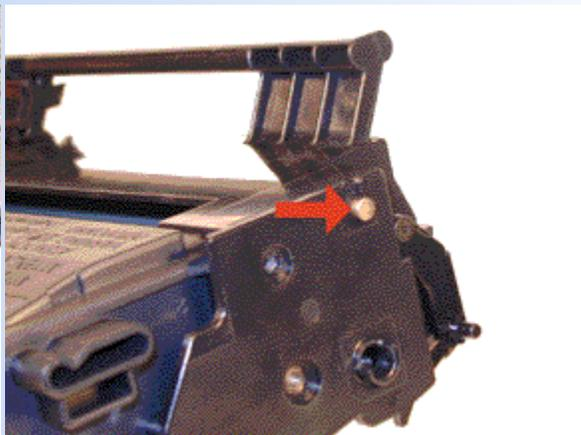

FIGURE 45
37. Install the two metal pins. See Figure 45